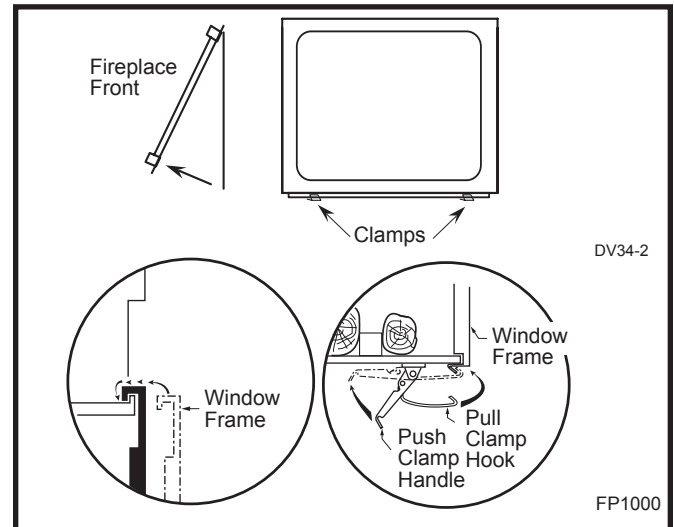

**Fig. 15** Louvre installation and removal.
To remove the top louvre (grille) assembly, lift louvre up and then out. (Fig. 15)
6. Lift off the window frame as shown in Figure 15.